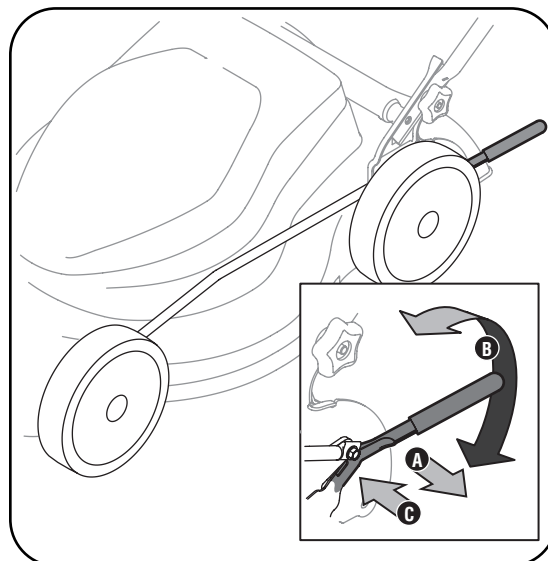

Figure 3-7: Use adjustment levers to change height.
1. The cutting height adjustment lever is located above the rear left wheel. See Figure 3-7.